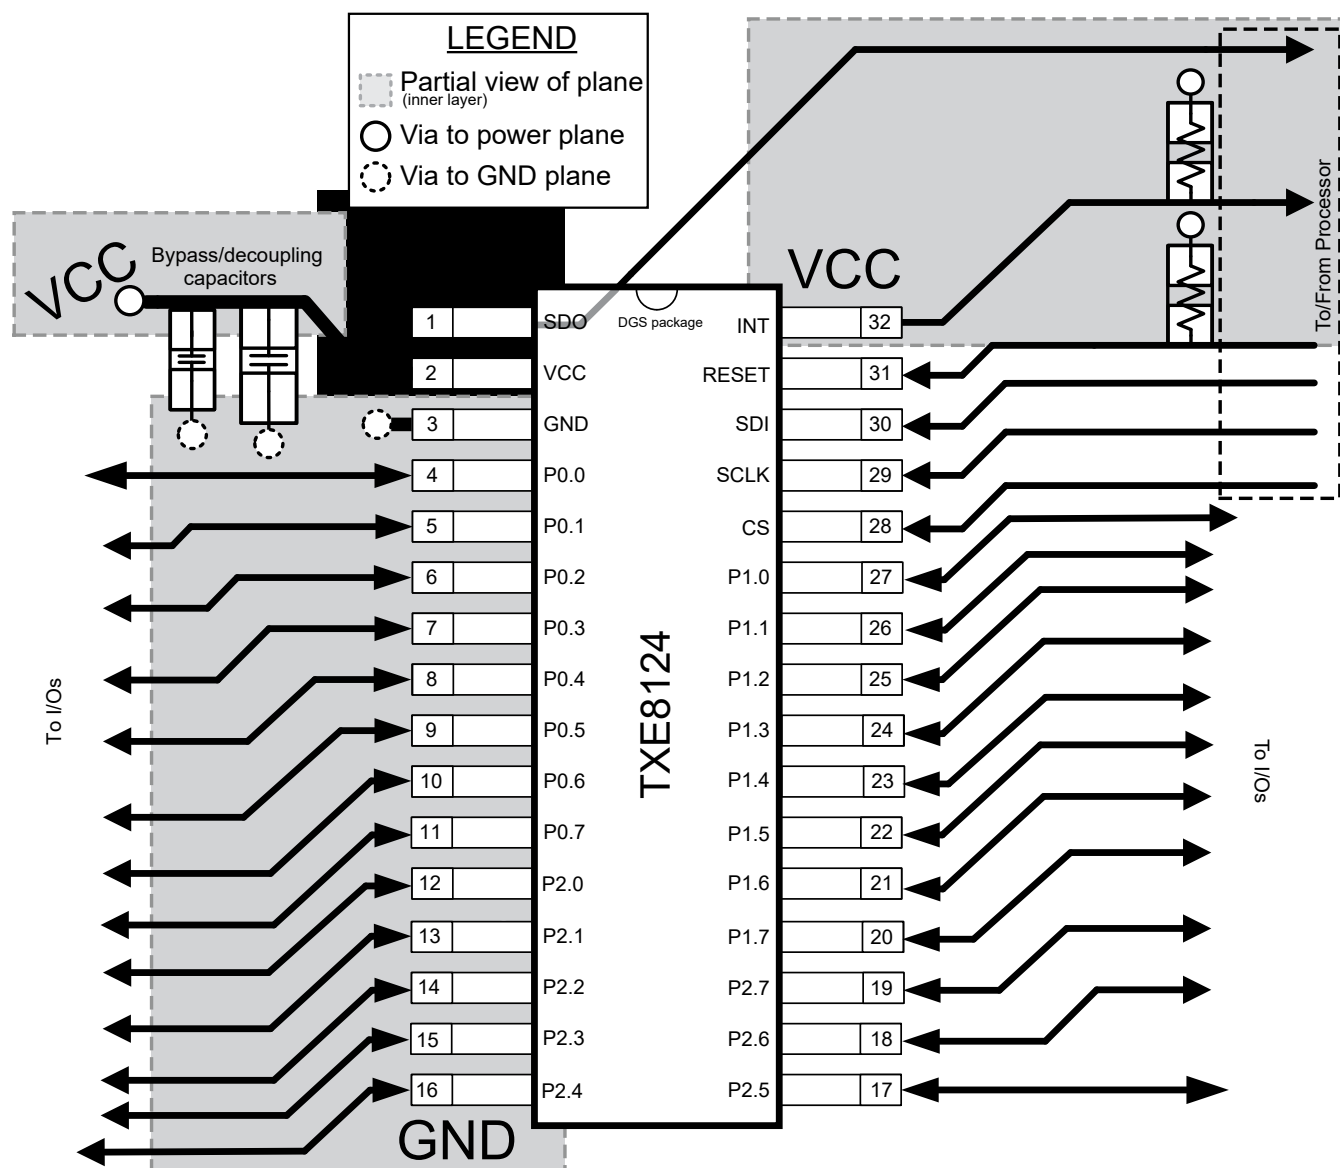

Figure 8-5. TXE8124-Q1 Layout
In all PCB layouts, it is a best practice to avoid right angles in signal traces, to fan out signal traces away from each other upon leaving the vicinity of an integrated circuit (IC), and to use thicker trace widths to carry higher amounts of current that commonly pass through power and ground traces. By-pass and decoupling capacitors are commonly used to control the voltage on the supply pins, using a larger capacitor to provide additional power in the event of a short power supply glitch and a smaller capacitor to filter out high-frequency ripple. These capacitors should be placed as close to the TXE81xx-Q1 as possible. These best practices are shown in Figure 8-5.
For the layout example provided in Figure 8-5, it is possible to fabricate a PCB with only 2 layers by using the top layer for signal routing and the bottom layer as a split plane for power and ground (GND). However, a 4 layer board is preferable for boards with higher density signal routing. On a 4 layer PCB, it is common to route signals on the top and bottom layer, dedicate one internal layer to a ground plane, and dedicate the other internal layer to a power plane. In a board layout using planes or split planes for power and ground, vias are placed directly next to the surface mount component pad which needs to attach to power or GND and the via is connected electrically to the internal layer or the other side of the board. Vias are also used when a signal trace needs to be routed to the opposite side of the board, but this technique is not demonstrated in Figure 8-5.